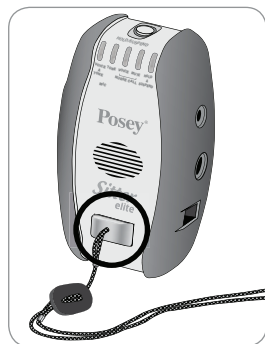

Fig. 31
**ALWAYS** check magnet when connecting it to a Posey alarm. You can check a magnet by removing it from the face plate of the alarm (Fig. 31). When the magnet is disengaged, the alarm should sound. DO NOT use the alarm or magnet if alarm does not activate each time magnet is removed from face plate.